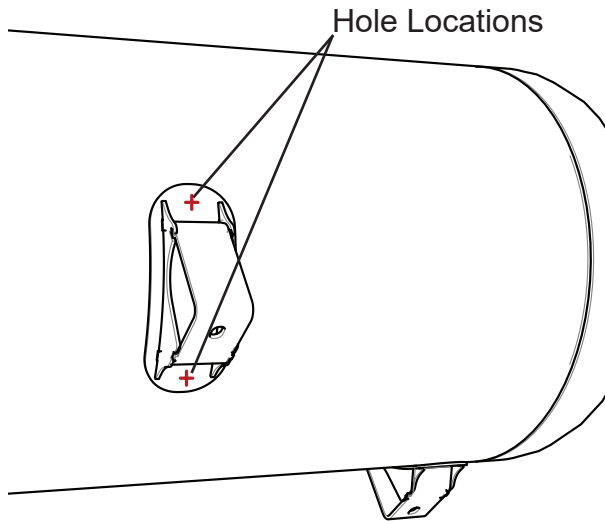

Figure 2
5. Drill two holes through the mounting foot and water tank in the locations shown in Figure 2. Drill a pilot hole first using a small drill bit. Final hole size to be 0.531 in.